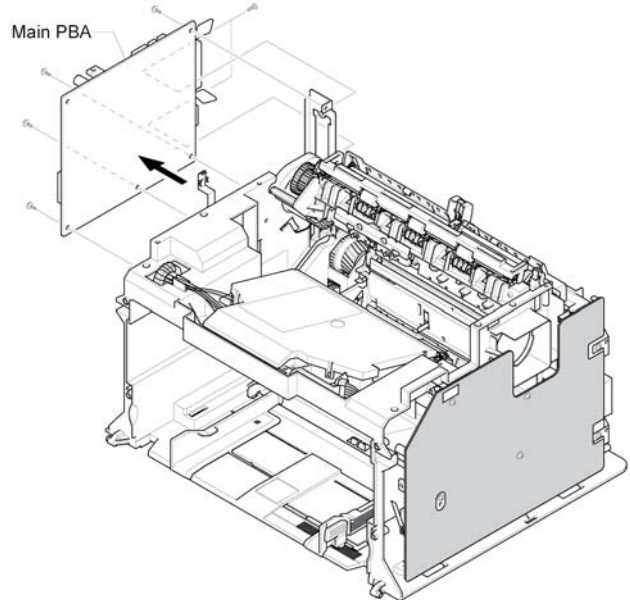

Figure 2
4. Remove 6 screws securing the main PBA and remove it, Figure 2.